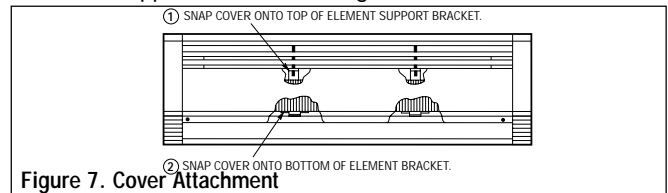

Figure 7. Cover Attachment
11. Replace the front cover by fitting the top lip of the cover onto the tabs on each junction box and top edge of the element support bracket(s). Rotate the cover downward, pushing the bottom corners inward. Install two screws (removed in Step 4) through the cover into the junction boxes. See that the bottom of the cover is engaged onto the bottom of each element support bracket. See Figure 7.